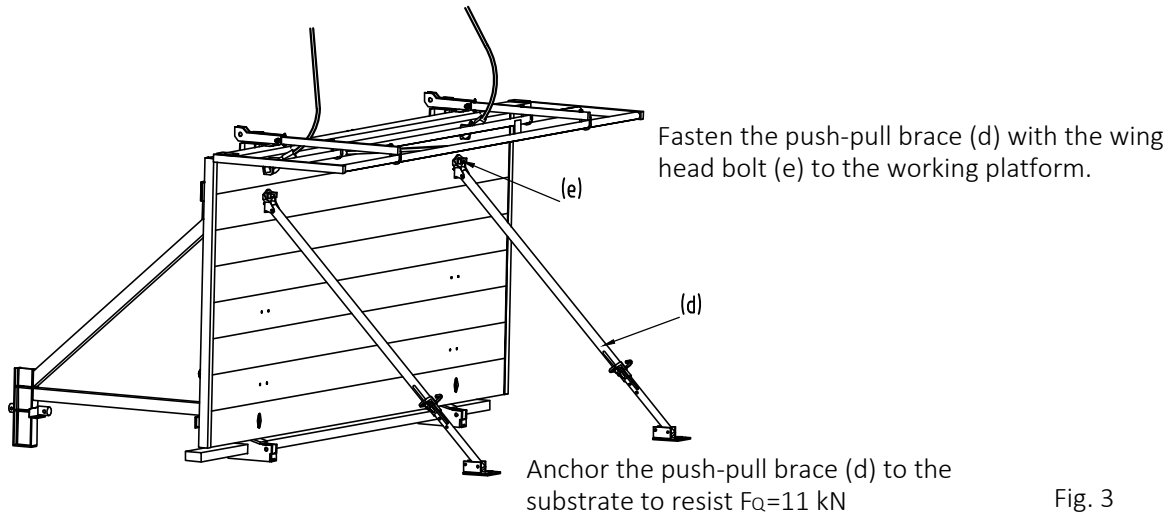

Fig. 3
- 3 Set the working platform down and fasten the 2 push-pull braces (d) in place by screwing the wing head bolts (e) [Part No. 135009] into the threaded sockets in the platform boarding and anchor the braces to the substrate to resist tension and compression forces. Only then can the crane rope be released (see Fig. 3).